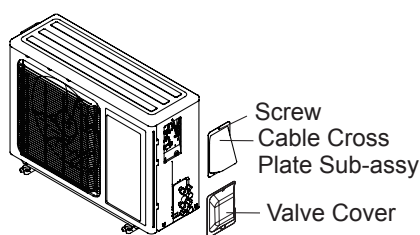

Fig.21
- (1) Remove the screw on the right cable cross plate sub-assy and valve cover of outdoor unit and then remove the cable cross plate sub-assy and valve cover.(As show in Fig.21)